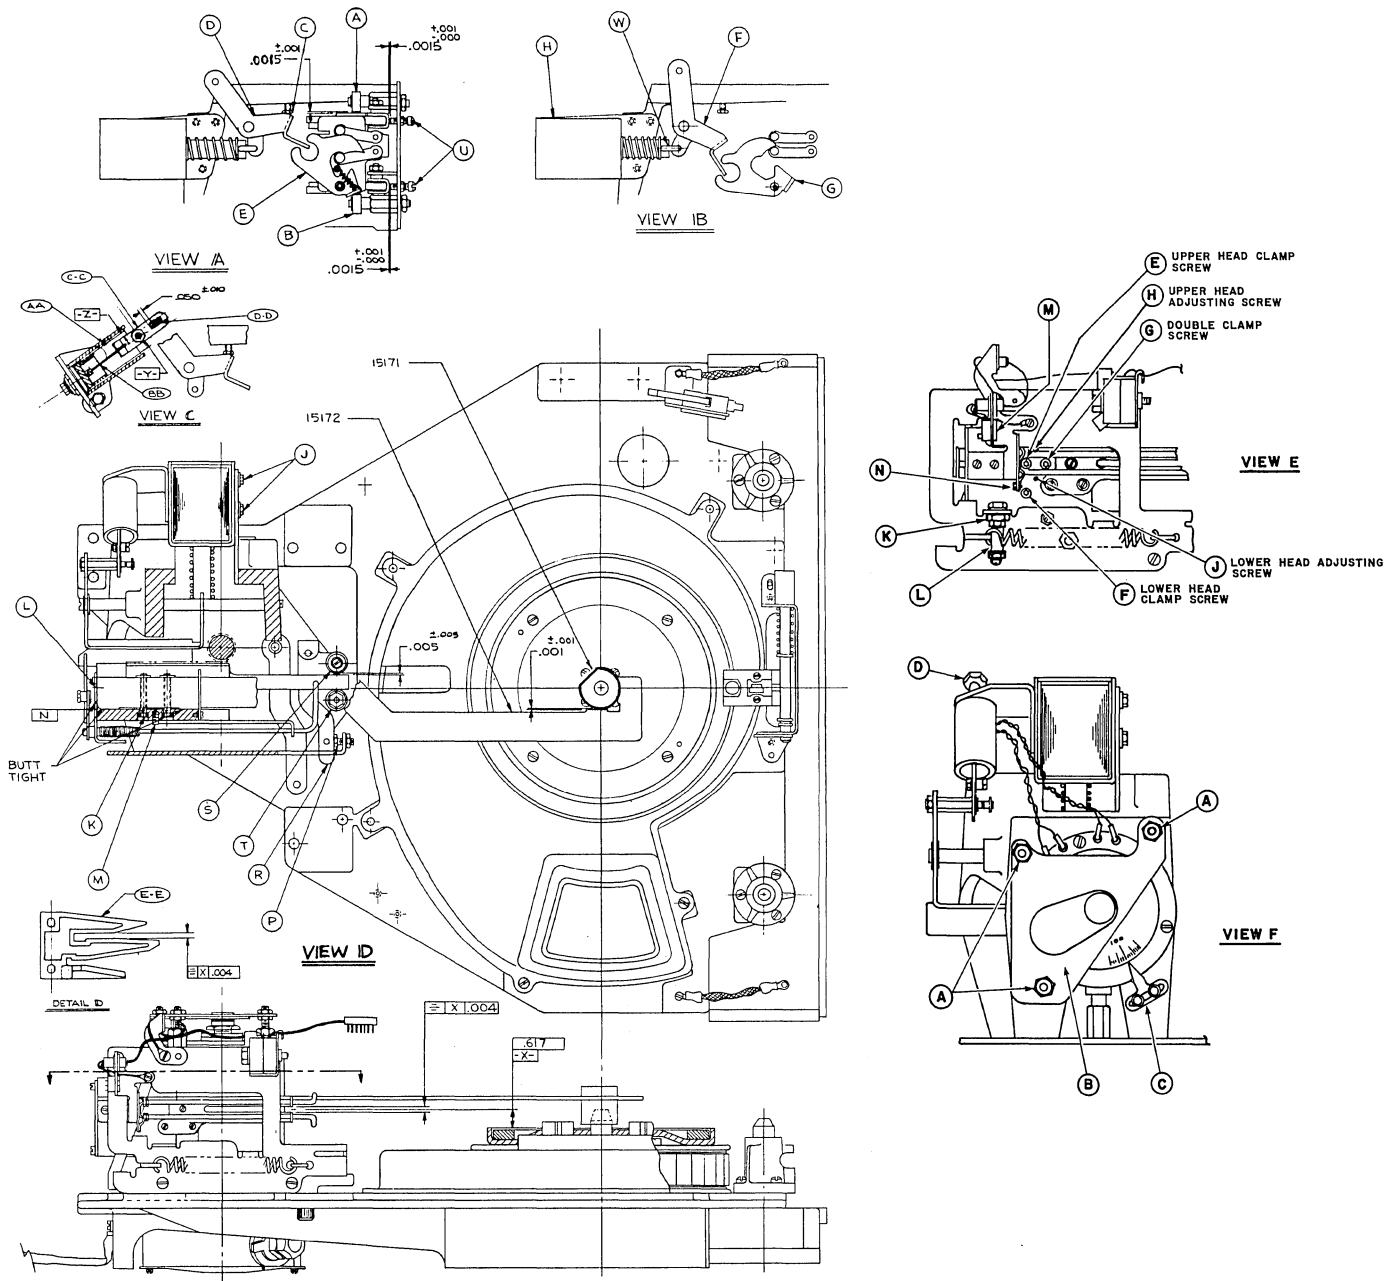
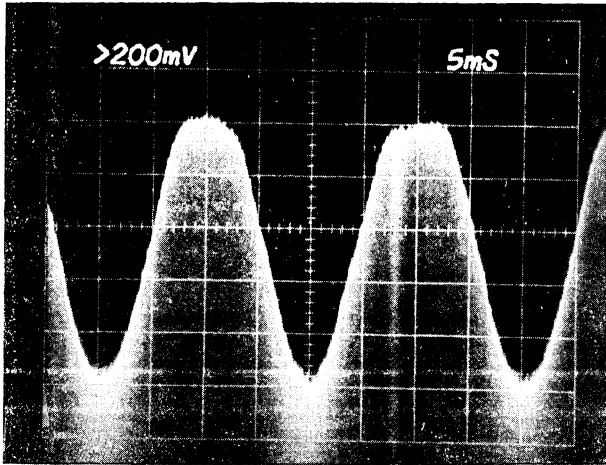
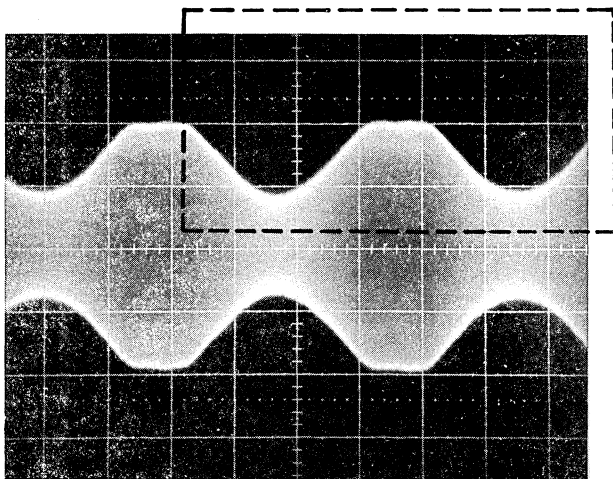
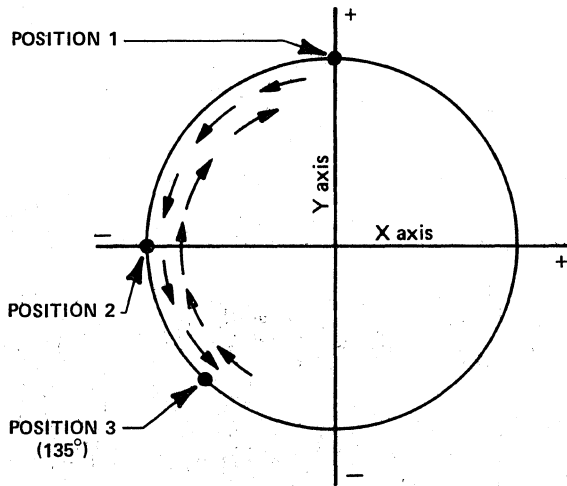

Figure 5-8 HEAD POSITIONER ADJUSTMENTS
Figure 5-10 WAVEFORMS
Figure 5-11 WAVEFORMS
Figure 5-13 TRACK "0" STOP ADJUSTMENT PATTERN
Refer to Figure 5-8. Note that it may be necessary to remove the Cartridge Receiver to gain access to eccentric "T" for the adjustment in Step # 11.
3. A 15 volt p-p sine wave should be seen on the oscilloscope. If not, loosen upper nuts "A" (Figure 5-8, View F) and rotate the transformer mounting plate until a signal of 15 ± 1 volts p-p is observed. Retighten the nuts.
grounding TP5 on PCB J10. Both heads should be checked. A correctly aligned head will meet the standard shown in Figure 5-10. See Adjustment Procedures immediately following this section if the above is not true.
8. Monitor TP2 of PCB J10 to observe the waveform shown in Figure 5-11, then readjust the oscilloscope for the pattern shown in Figure 5-10. The signal from the lower head will normally be selected and its output seen at TP2. The upper head may be selected for observation of its output by grounding TP5 on PCB J10. Both heads should be checked. A correctly aligned head will meet the standard shown in Figure 5-10. See Adjustment Procedures immediately following this section if the above is not true.
3. Depress the Servo Release Switch (see Figure 5-5), and manually rotate the head positioner. The scope trace should be a lissajous pattern which in this case assumes a circular trace, as depicted in Figure 5-13.
4. Manually rotate the head positioner fully clockwise to retract the head carriage as far as possible and release the Servo Release switch. The cylinder pointer (Figure 5-8, View F, Item C) should indicate Track "0". Using the scope's Horizontal Position control, center the dot on the top portion of the display "Y" axis, shown in Figure 5-13 as Position 1.
5. Depress the Servo Release Switch and, with slight pressure, force the head positioner against its rear (crash) stop. Adjust eccentrics "K" and "L" (Figure 5-8, View E), so that the scope trace comes to rest within Position 2 of Figure 5-13, but not past it.
threaded screw hole (see Figure 5-8, View E), and turning it in against a diagonal surface on the edge of the head support arm. This will move the head assembly toward the spindle ONLY. If the head is moved too far, the screw must be removed, the head clamps loosened, and the head moved rearward to begin again. As the head is moved toward the spindle by the set screw, it will approach the pre-recorded alignment track (cylinder 100 or 105 as described above). Standard Density machines read track 100 with the erase coils, while High Density machines read track 105 with the read/write coils. The head is correctly adjusted when an equal portion of the eccentrically recorded track is read by each half of the winding. See Figures 5-10, 5-11 and 5-12, all of which depict 0% error in head adjustment.
11. Following adjustment, the head clamps must be torqued down. Refer to Figure 5-8, View E. A torque of 50 inch/ounces shall be applied to the double (common) head clamp "G", while a torque of 26 inch/ounces shall be applied to single head clamp "E" and/or "F".
1. Refer to Figure 5-8, View E. Raise the Electronics Frame into the service position to gain access to the rear of the Head Positioner through the Heat Sink, and loosen the head plug cable clamp "N".
6. Refer to Figure 5-8, View F. Turn dashpot adjustment screw "D" until the data signal appears 140 ± 40 milliseconds after the start of the sweep. Lock screw "D" with a drop of adhesive (Diablo # 70226) when the adjustment is completed.